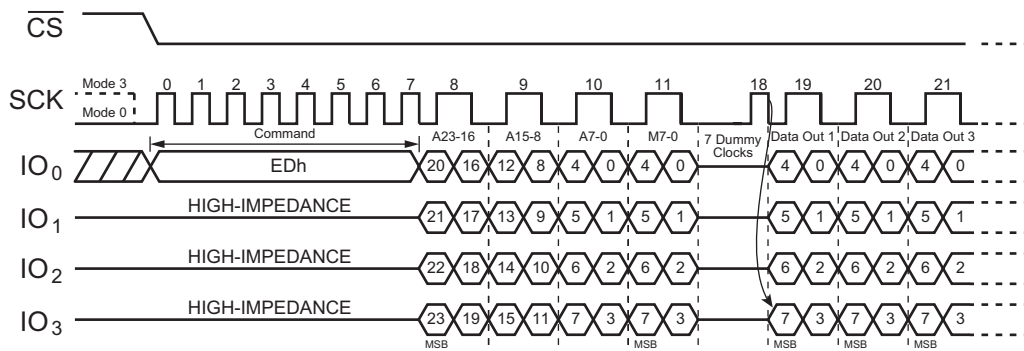
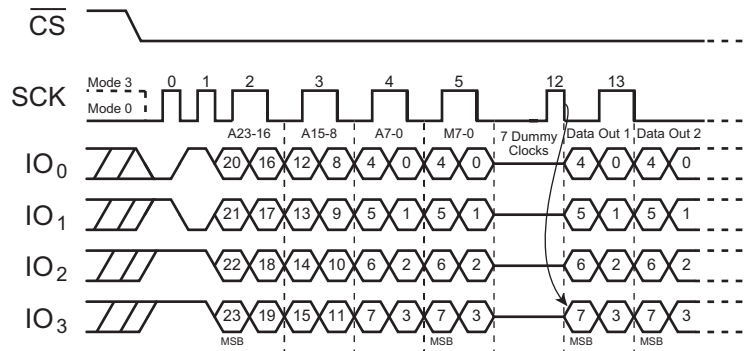
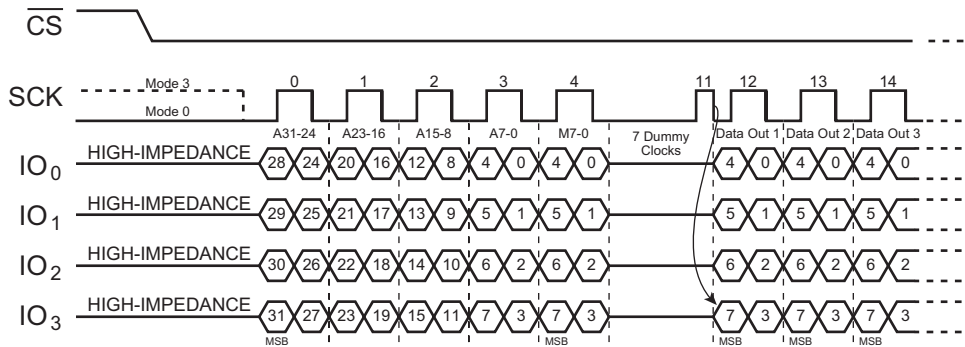

Figure 51. DTR Fast Read Quad I/O (SPI Mode, Three-Byte Address Mode; Initial command or previous (M5-4≠(1,0))
Figure 55. DTR Fast Read Quad I/O (QPI Mode, Three-Byte Address Mode; Initial command or previous (M5-4≠(1,0)))
Figure 58. DTR Fast Read Quad I/O (QPI Mode, Four-Byte Address Mode; Initial command or previous (M5-4=(1,0)))
The DTR Fast Read Quad I/O (EDh) command is similar to the Fast Read Dual I/O (BBh) command, except that address and data bits are input and output through four pins: IO0, IO1, IO2, and IO3; also, four Dummy clocks are required in SPI mode before the data output, as shown in Figure 51 to Figure 58. The Quad Enable bit (QE) of Status Register must be set to enable.
The DTR Fast Read Quad I/O command is also supported in QPI mode, as shown in Figure 55 to Figure 58. In QPI mode, the Continuous Read Mode can further reduce command overhead by setting the Continuous Read Mode bits (M7-0) after the input Address bits (A23/31-0). See the description on previous pages. If the Continuous Read Mode bits (M5-4) = (1,0), the next Fast Read Quad I/O command (after CS is raised and then lowered) does not require the EDh opcode. If the Continuous Read Mode bits M5-4 do not equal (1,0), the next command requires the first EDh opcode, thus returning to normal operation. A Continuous Read Mode Reset command can also be used to reset (M5-4) before issuing normal command.